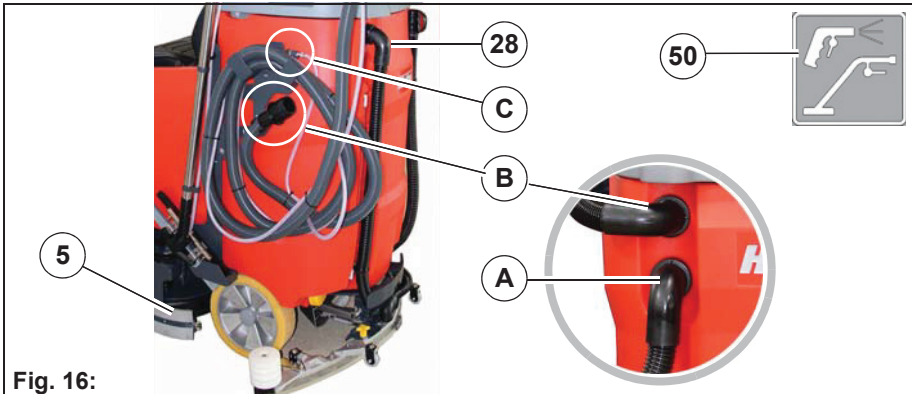

Fig. 16:
1. Reconnect the suction hose **Fig. 16-28** to park position **Fig. 16-A**.
2. Insert the hose of the tool into the opening of the vacuum system **Fig. 16-B**.
3. Connect the hose to the water connection of the machine **Fig. 16-C**.